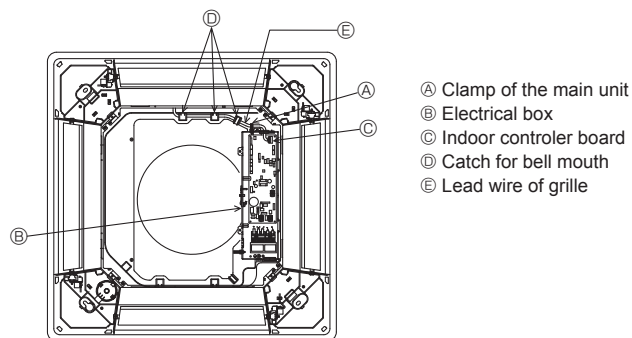

Fig. 6-8
6.4.4. Wire connection (Fig. 6-8)